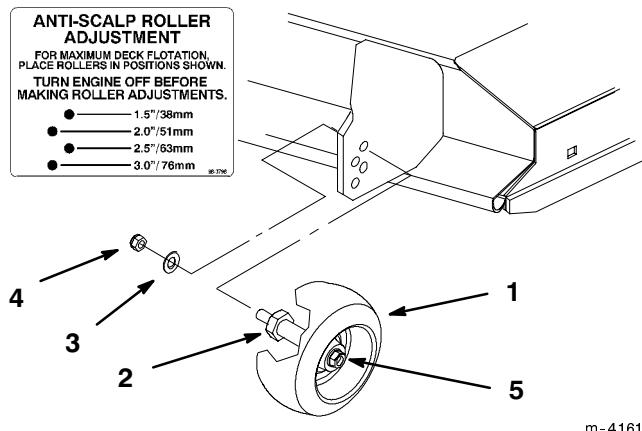

Figure 12
2. After adjusting height-of-cut remove flange nut and spring disk while holding stud with wrench (Fig. 12).
Note: Do not remove the wheel nut and washer (Fig. 12).
3. Select hole so gage wheel is positioned to the nearest corresponding height-of-cut desired (Fig. 12).
4. Reinstall the flange nut and spring disk. Torque to 40-45 ft-lbs. (54.2-61.0 N•m) (Fig. 12).